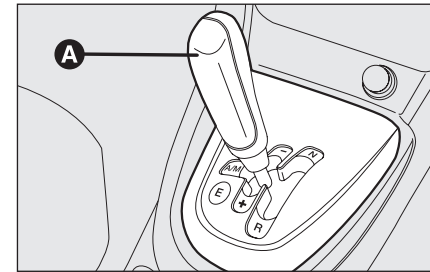

fig. 1
- Push the gear lever **A-fig.1** towards (+) to engage first gear (if starting from **N** or **R** simply move the lever to the central position) or **R** to engage reverse.
- Push the gear lever **A-fig. 1** in **A/M** to engage the automatic mode or in **R** to engage reverse
The selection of the gear and the operating mode (**MANUAL** or **AUTO**) is made using the control lever **A**-fig. 1 in the centre console.